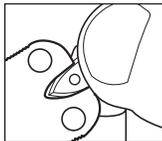

FIG. 1
3. Insert new mini-blade into end of safety wrench provided with your original Thunderhead® XP100 broadhead purchase (FIG. 1).